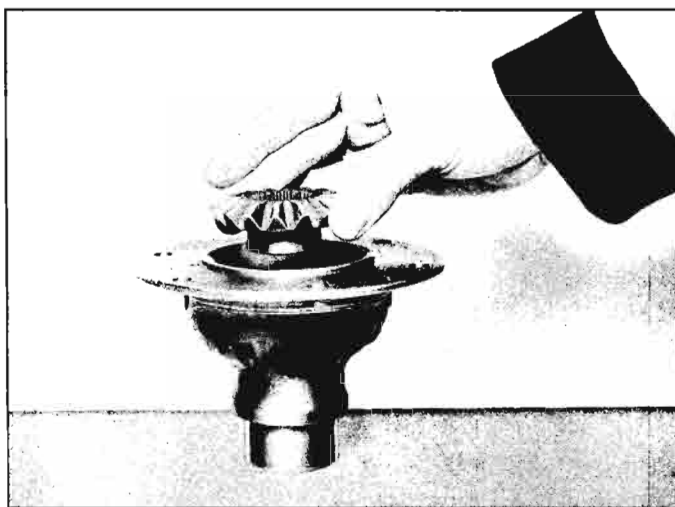

Fig. 6C-34—Installing Side Gear in Differential Case
4. Position side gear with thrust washer installed on its hub on pinions and place differential cover on case. Align punch (fig. 6C-36) marks on edges of differential carrier and cover.